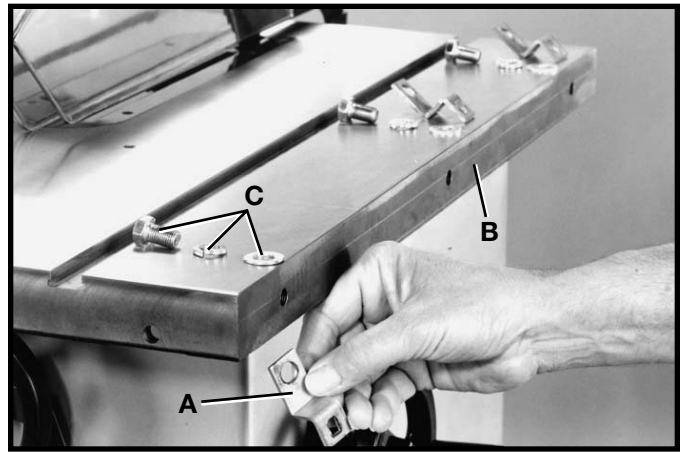

Fig. 43
1. Assemble Z-brackets (A) Fig. 43, to the three tapped holes at the inside edge on the right side of saw table (B), using three 7/16-20 x 3/4 hex head screws (C) with flat washers and lockwashers.